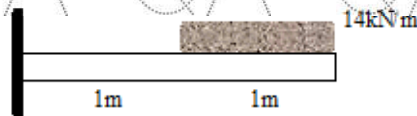

Figure 3
5. For the beam having box loading on it end shown in the figure 3 determine: (a) slope at 2 and 3 (b) vertical deflection at the midpoint of the load Take $E = 200 \text{ GPa}$, $I = 4000000 \text{ mm}^4$. [5+5]